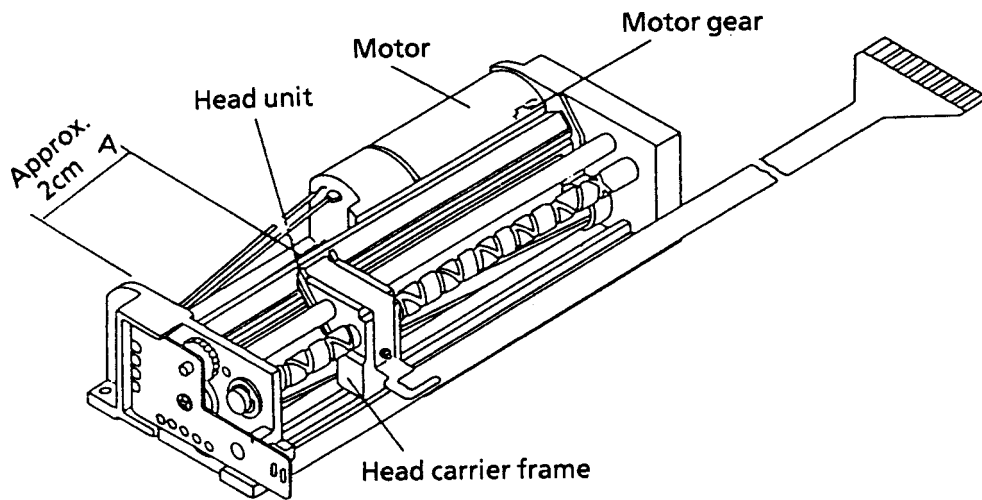

Figure 8-11 Moving the Head Carrier
- ① Move the head carrier to position A by turning the motor gear by hand to allow easy replacement of the head unit (see Figure 8-11).